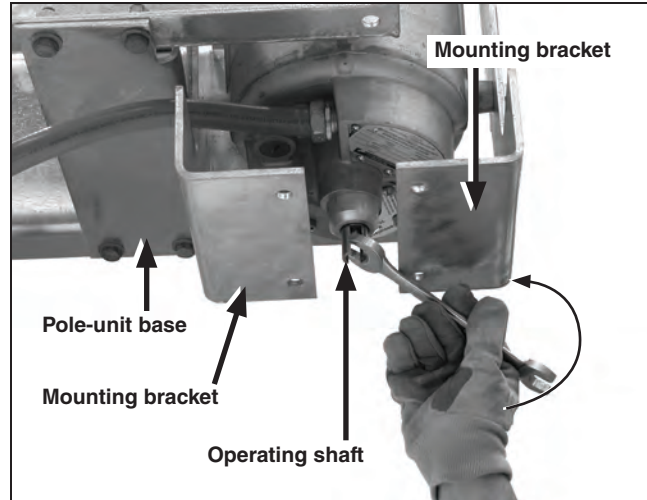
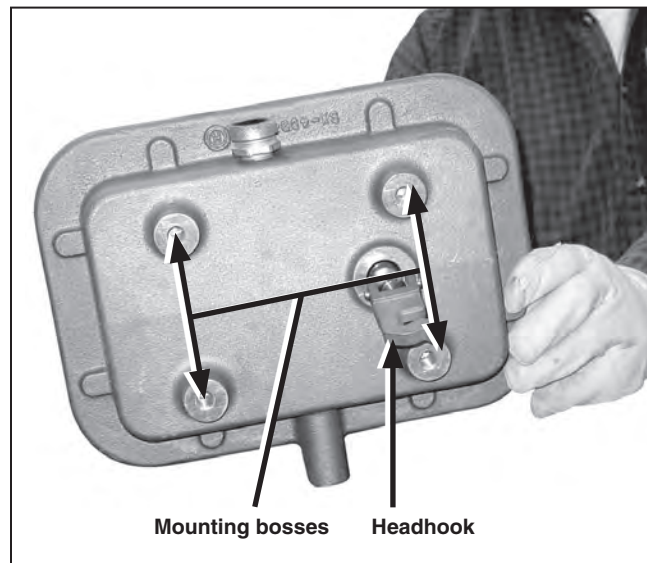

Figure 39. Rotate the operating shaft until it is centered.
Figure 40. Charging motor mounting bosses.
STEP 1. Manually rotate the operating shaft counter-clockwise approximately $\frac{1}{4}$ -turn until it is centered, as shown in Figure 39. The operating pin should be perpendicular to the pole-unit base.
STEP 2. Locate the four $\frac{1}{2}$ -13-inch mounting bosses on the top of the motor. See Figure 39 and Figure 40. Align the mounting bosses with the holes in the motor brackets. Rotate the headhook if necessary.